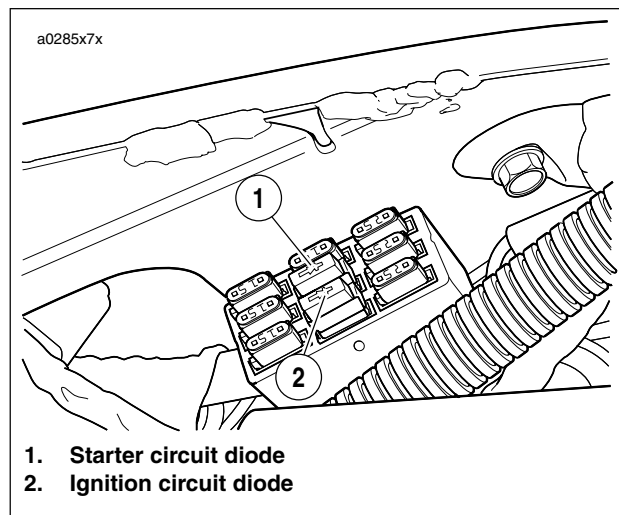

Figure 7-42. Diode Location in Fuse Block
3. See Figure 7-42. Both diodes (1, 2) are mounted in the fuse block under the seat.
1. See Figure 7-42. Install the **new** diodes into position on the fuse block by pushing it into the slot.